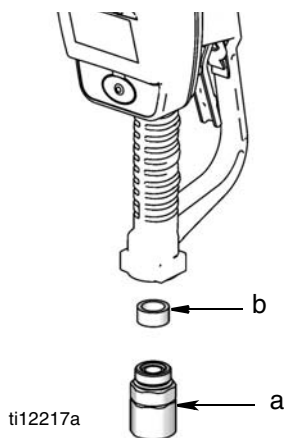

FIG. 2
2. Remove swivel (a), spacer (b) and o-ring (C) from meter (FIG. 2). Reinstall spacer (b).